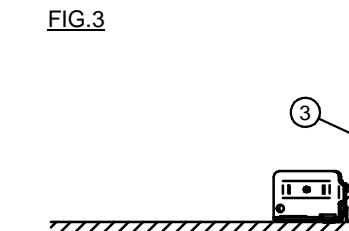
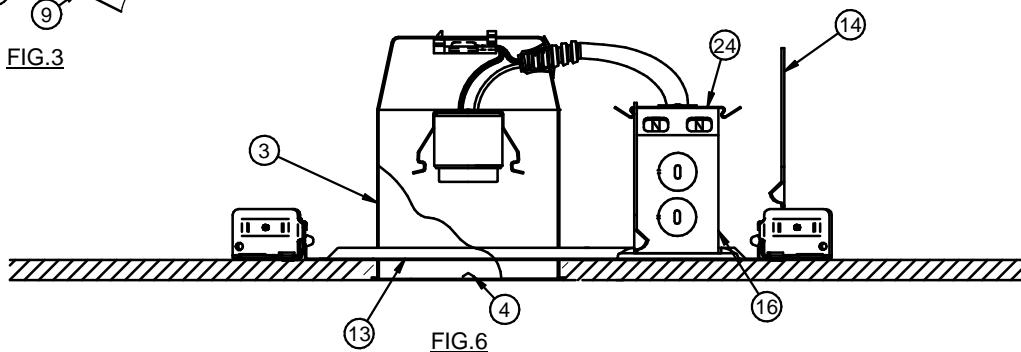

FIG. 3
FIG. 4
2. For Suspended Ceilings: Place the Fixture on the ceiling grid with the "T" Bars (9) running through the Bar Hanger Notches (10). Using a flat head screwdriver or other tool, bend the integral t-bar mounting tabs (11) downward to a vertical position (Fig. 3). Secure housing to the support structure with tie wire (supplied by others) in the holes supplied. Sheetmetal screws (supplied by others) can also be used in the holes supplied (20).
3. Locate Housing (3) along Bar Hanger in desired position and, using pliers, squeeze the 4 Locking Tabs (12) on the Plaster Frame (13) tightly over the Bar Hangers to prevent further Housing movement. Bar Hangers (6) may be installed in alternate Slots (23) if mounting conditions require.
4. As desired, hanger bars (6) may be shortened at score mark to fit tight mounting conditions and joist alignment tabs removed to adjust vertically as needed by breaking off with pliers.
5. Unsnap Junction Box Cover (14) by lifting the Leaf Spring (24).
6. Run supply wires through UL Listed connectors (not supplied) in one of the five Pryouts (15) on the Junction Box (16) or Type NM cable (ROMEX) through an Opening above the Wire Retaining Plate (17). Connect Supply Wires (19) as shown in Fig 4 & 5. Replace Cover.